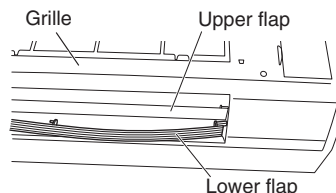

Fig. 1-67
- (5) Remove the lower flap by disengaging 4 pins of the lower flap in order. (Figs. 1-67 and 1-68)